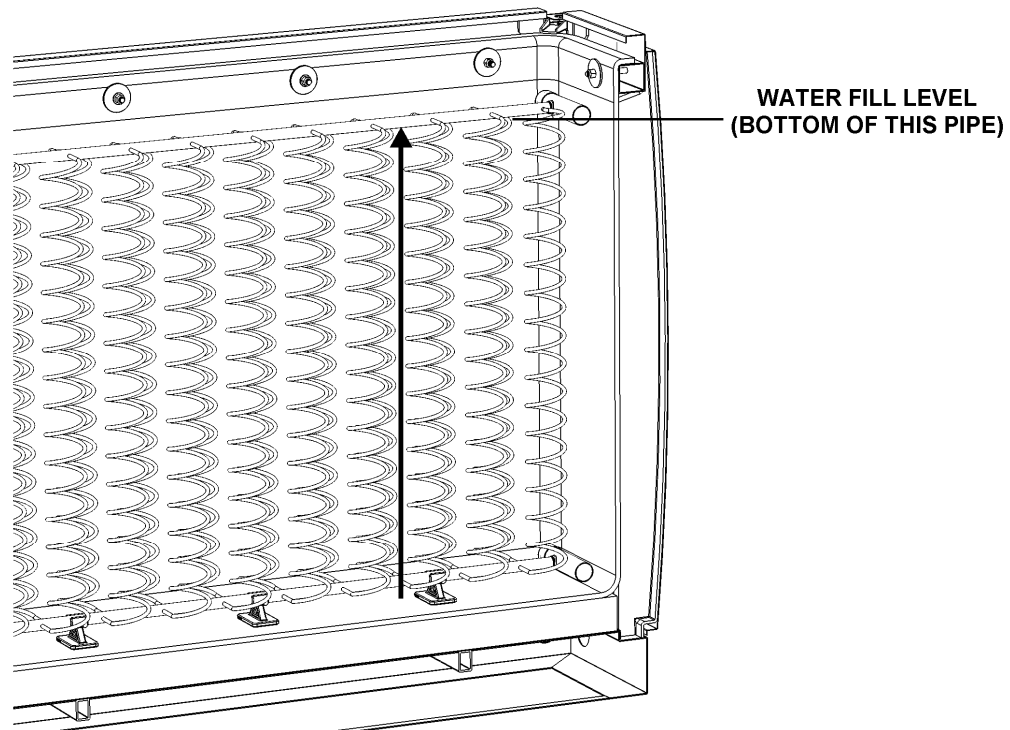

Figure 24 – Ice Bear[®] Unit Water Fill Level
2. Fill the ICE STORAGE TANK with potable water to the bottom of the top PIPE on the HEAT EXCHANGER (see Figure 24). Be sure drainage is in compliance with state/local codes and regulations.